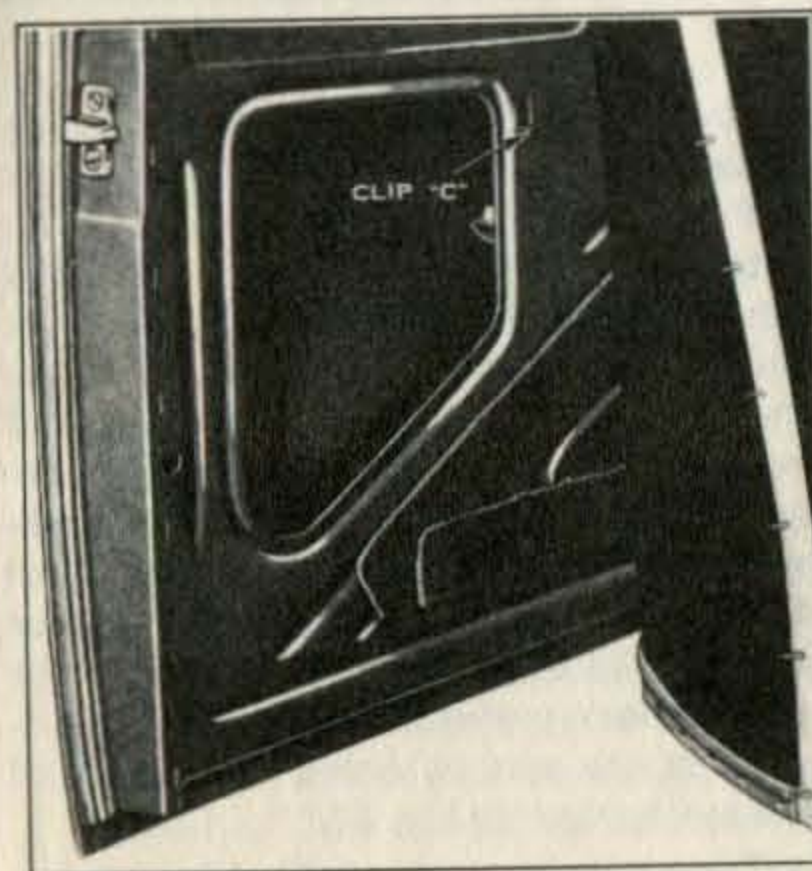

Fig. 34. Door Trim Pad
1. Place lower edge of trim pad in metal trim pad retainer. See Fig. 34.
2. Bend the trim pad corrugated nails along sides slightly as shown in Fig. 34, so they will engage in the slots in the door panel.